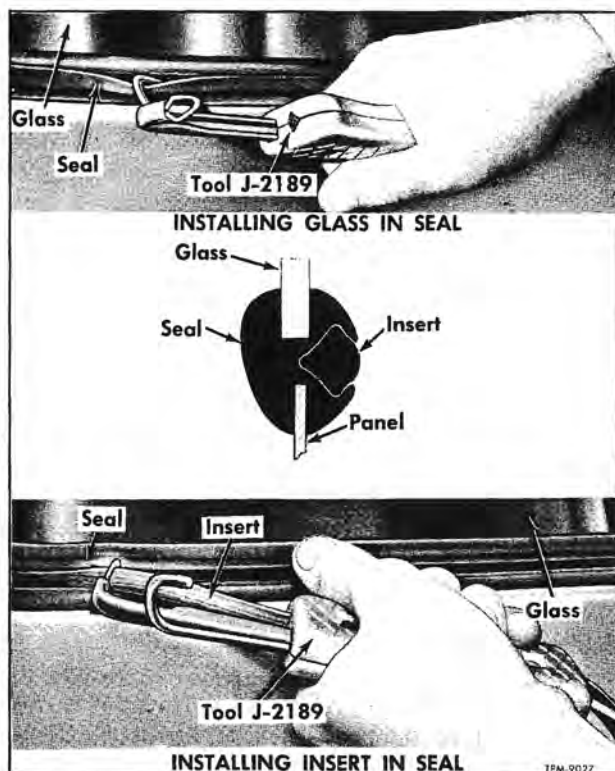
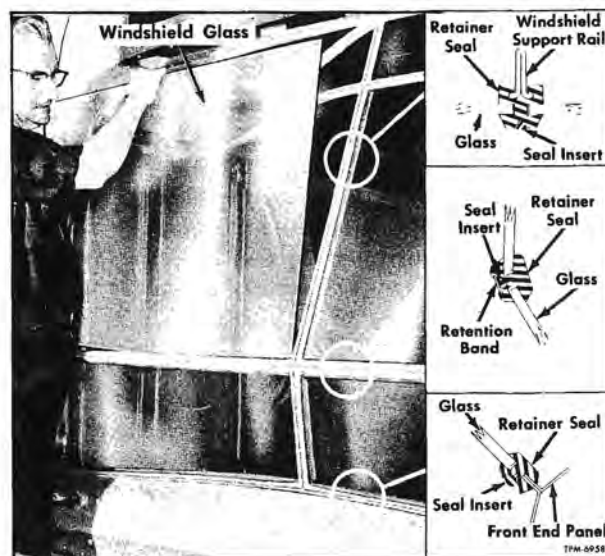

Figure 2—Replacing Insert-Retained Glass
Figure 3—Installing Windshield Glass
All window glass except side window sash is retained in body openings by insert-type rubber-like retainer. Retainer seal and seal insert are shown typically in figures 2 and 3.
Although possible to install retainer and seal insert without use of special tools, seal and insert installer tool (J-2189) (fig. 2) is recommended to facilitate installation.
4. Position new glass into groove of retainer seal. Figure 3 shows a section of windshield glass being installed. Use pin end of installer tool (J-2189) to assist locating glass in seal groove as shown in upper view of figure 2.
5. Thread end of rubber insert through handle and eye of installer tool. Refer to lower view of figure 2. At point opposite joint in retainer seal, push tool eye and end of installer into seal groove.